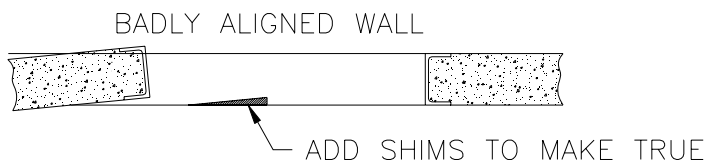

FIG. 2
- * **If the wall is badly aligned**, shim to make true (Figure 2).